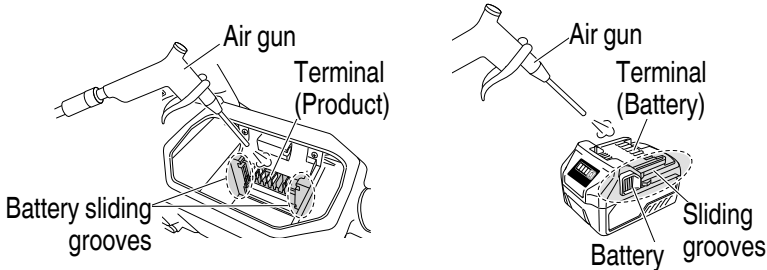

Fig. 46
9. **Cleaning the battery installation compartment and the battery (Fig. 46)**